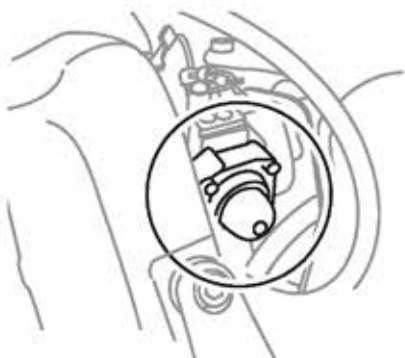

Figure 10. Purge Bulb
2. Carburetor Purge System: Push the purge bulb four times or until you see fuel in the bulb (Figure 10).